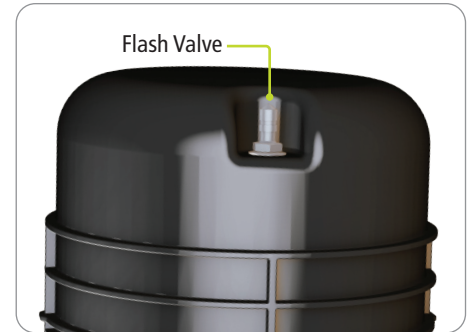

Figure 50
1. Apply 5 PSI of air to the flash valve on dome. (Figure 50)